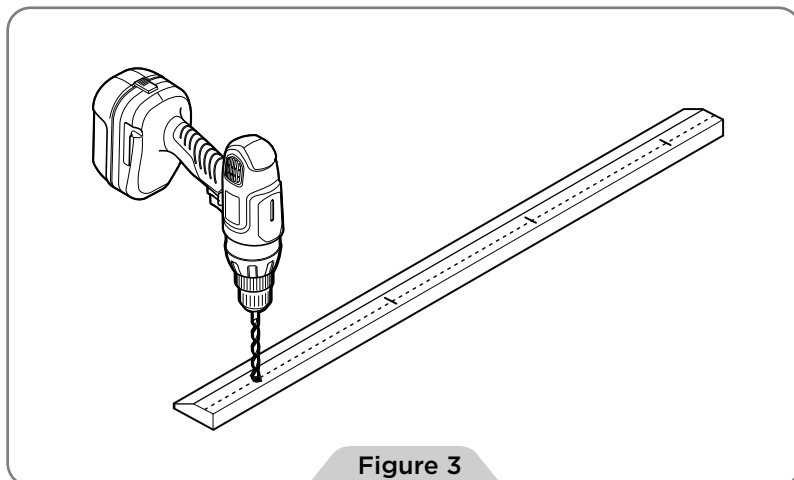

Figure 3
5. Drill pilot holes through measurement lines in the cleat using an 1/8" drill bit **(Figure 3)**.